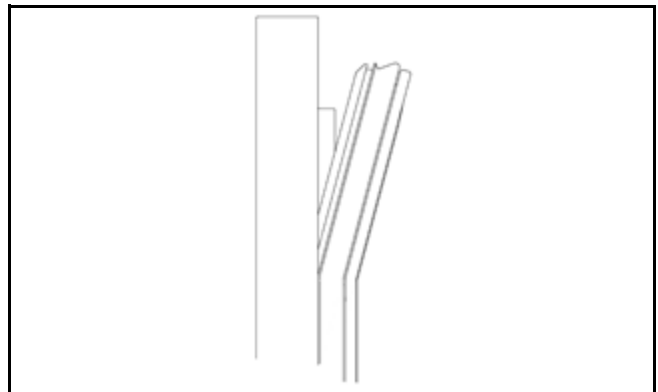

Figure 16
9. Pull door gasket out of the groove completely. Start in the middle and pull outward, moving towards the corners (**Figure 16**). This may take some force, but be careful not to cut or rip the gasket.